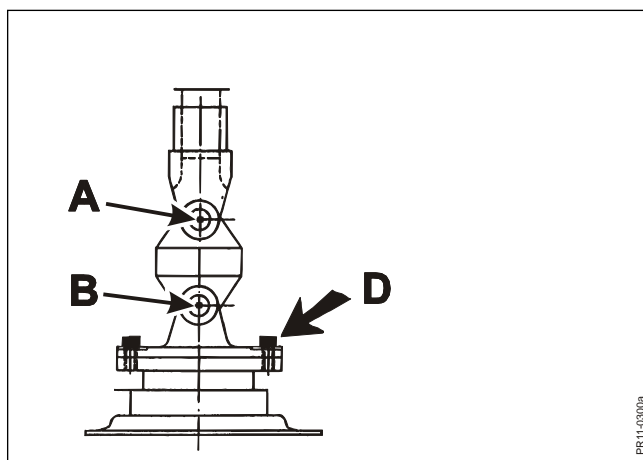

Fig. 5-21
**Fig. 5-21** The PTO for the cutter bar should run with minimum angular deviation. Therefore a special tool is available (KONGSKILDE part number 6000-836x) which is used for placing the bevel gearbox precisely in relation to the cutter bar.